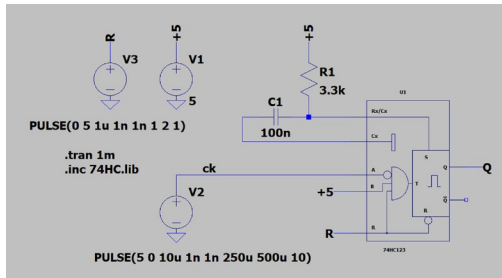

Fig.1a
- Monostable as shown in Fig.1a